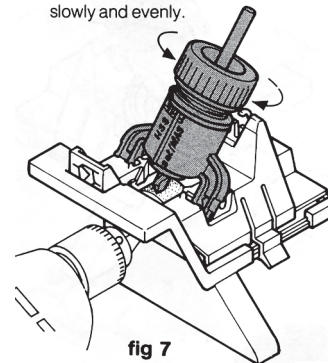

fig 7
- Pressing the red cam on the drill turret against the upright part of the carriage, **slowly and evenly** rotate the turret from **one end of the slot to the other** about 10 times, or until you hear that the sharpening has stopped (fig 7).